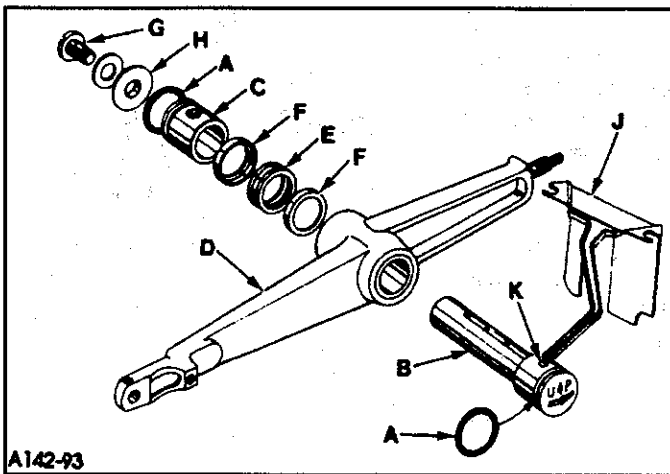
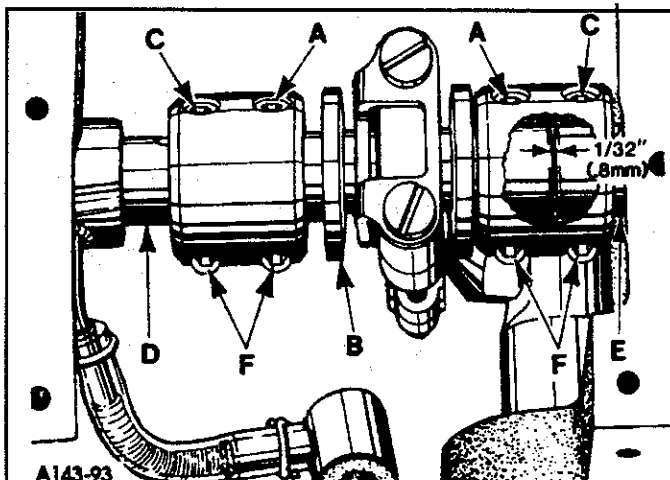
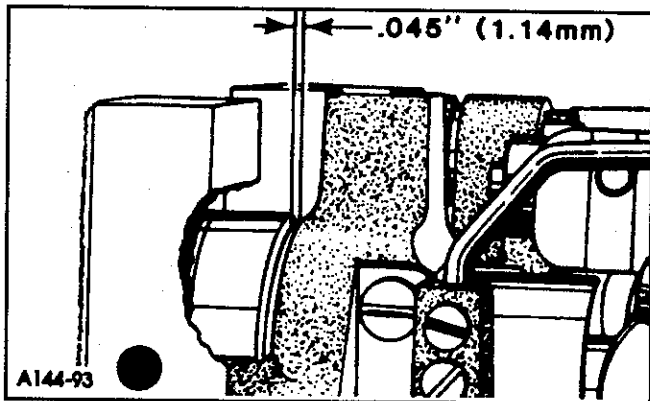

FIG. 26
FIG. 27
FIG. 28
Install "O" rings (A, Fig 26) onto needle lever stud (B) and thrust collar (C).
As viewed looking down from rear of machine, spot screws (A, Fig. 27) in the couplings must align with the spots in the looper drive crank (B) and set screws (C) must align with the flats on crankshaft (D) and main shaft (E). main shaft must be positioned laterally with .045" (1.14mm) clearance between the right side of its head and the bed casting as shown in Fig. 28.
Looper drive crank (B, Fig. 27) must be positioned laterally with 1/32" (.8mm) clearance between it and main shaft (E) as shown in Fig. 26. Once these settings are made, it is very important that the couplings are tightened in the following sequence for best performance.